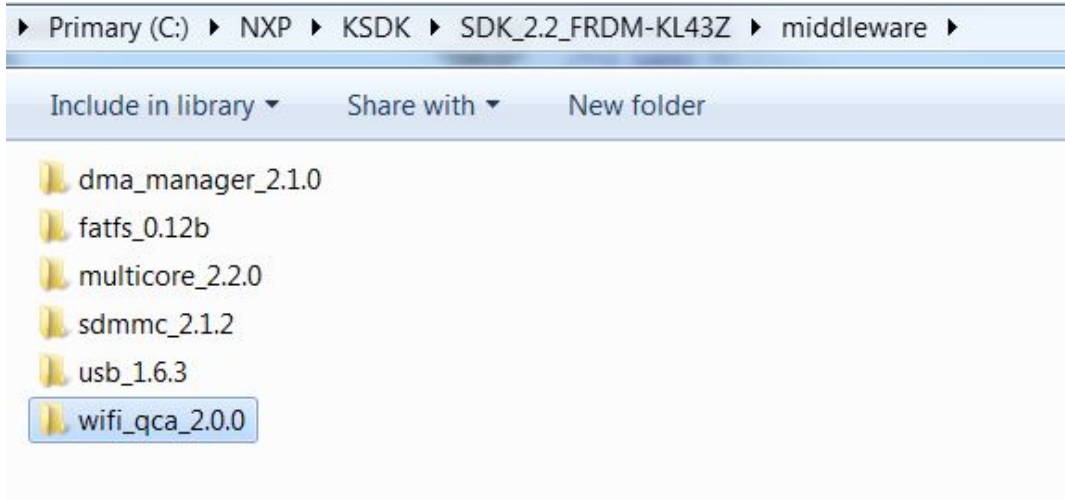

Figure 7. MCUXpresso SDK FRDM-KL43Z middleware folder after copy
3. Also, copy *{YOUR PATH}\SDK_2.2_FRDM-KL46Z\middleware\wifi_qca_2.0.0* to *{YOUR PATH}\SDK_2.2_FRDM-KL43Z\middleware* as shown in Figure 7.